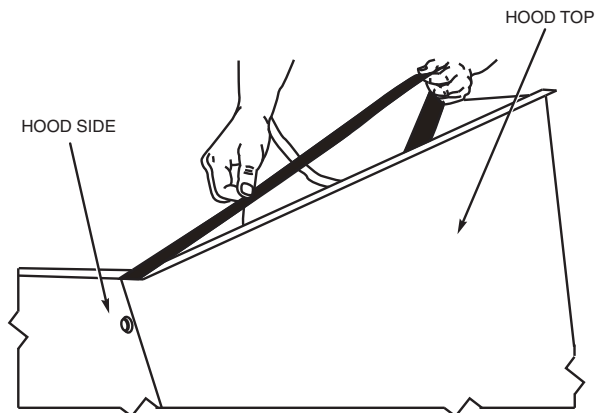

Fig. 29 — Adding Seal Strip to Back of Hood Top Mounting Flange
5. Apply black seal strip (provided) to back of hood top mounting flange. Seal strip of hood top mounting flange must press tightly against seal strip of hood side mounting flanges. See Fig. 29.